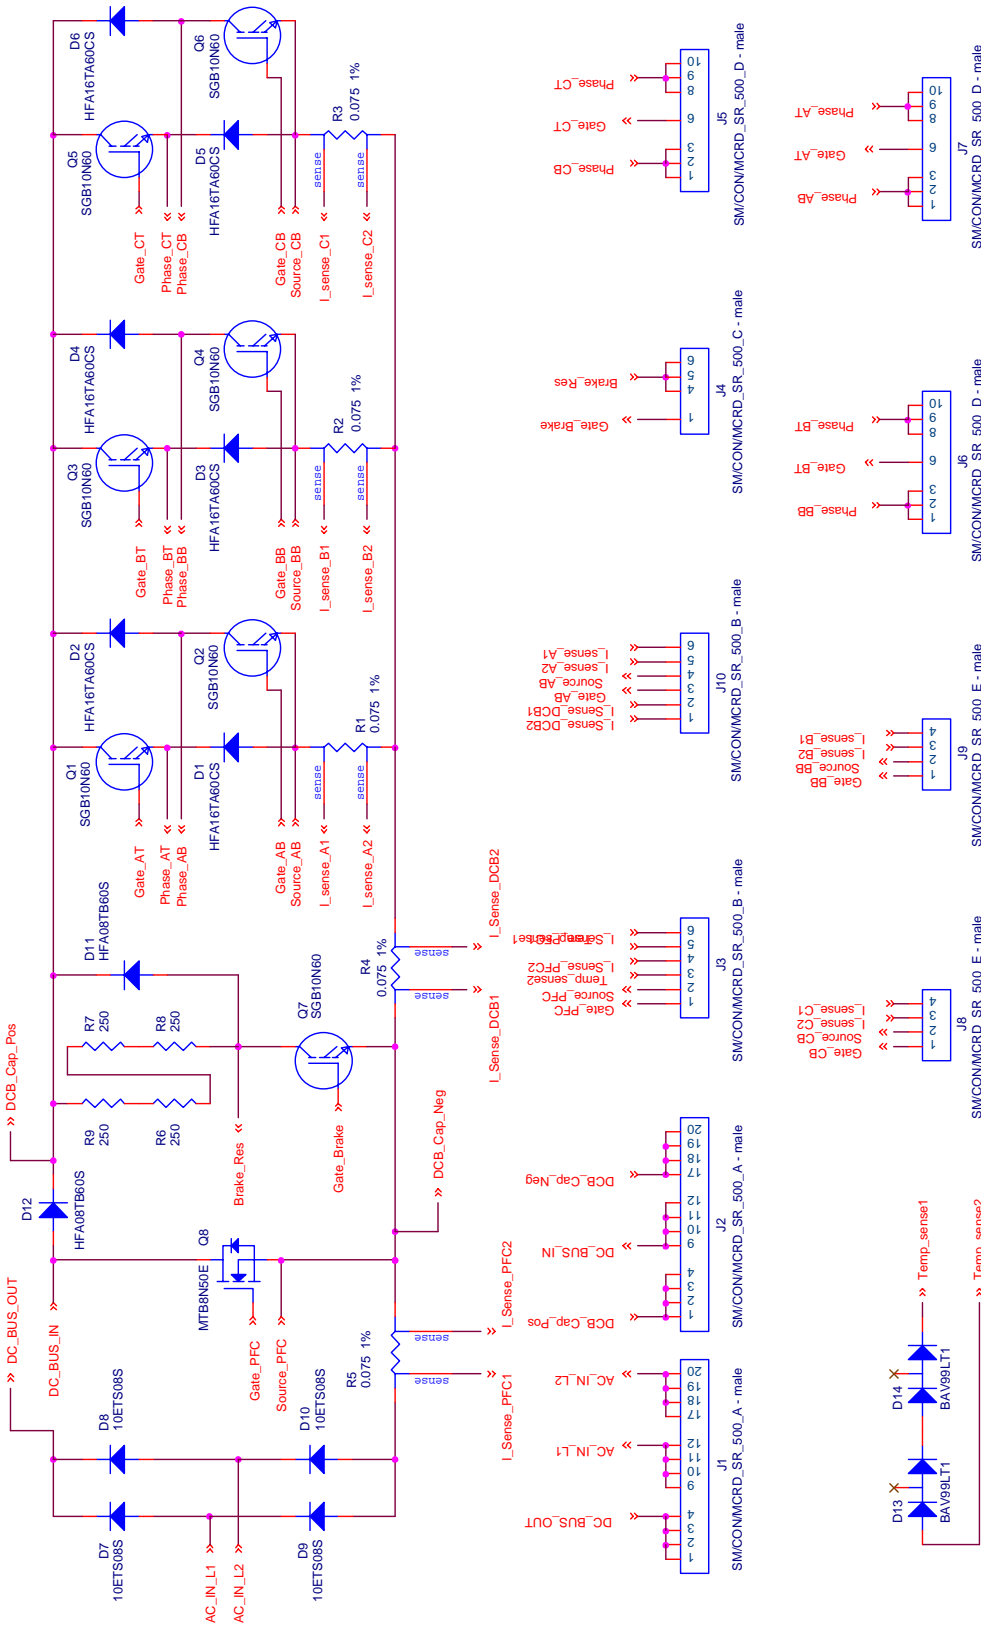

Figure 4-3. 3-Phase Output
- The 3-phase output stage appears in Figure 4-3.